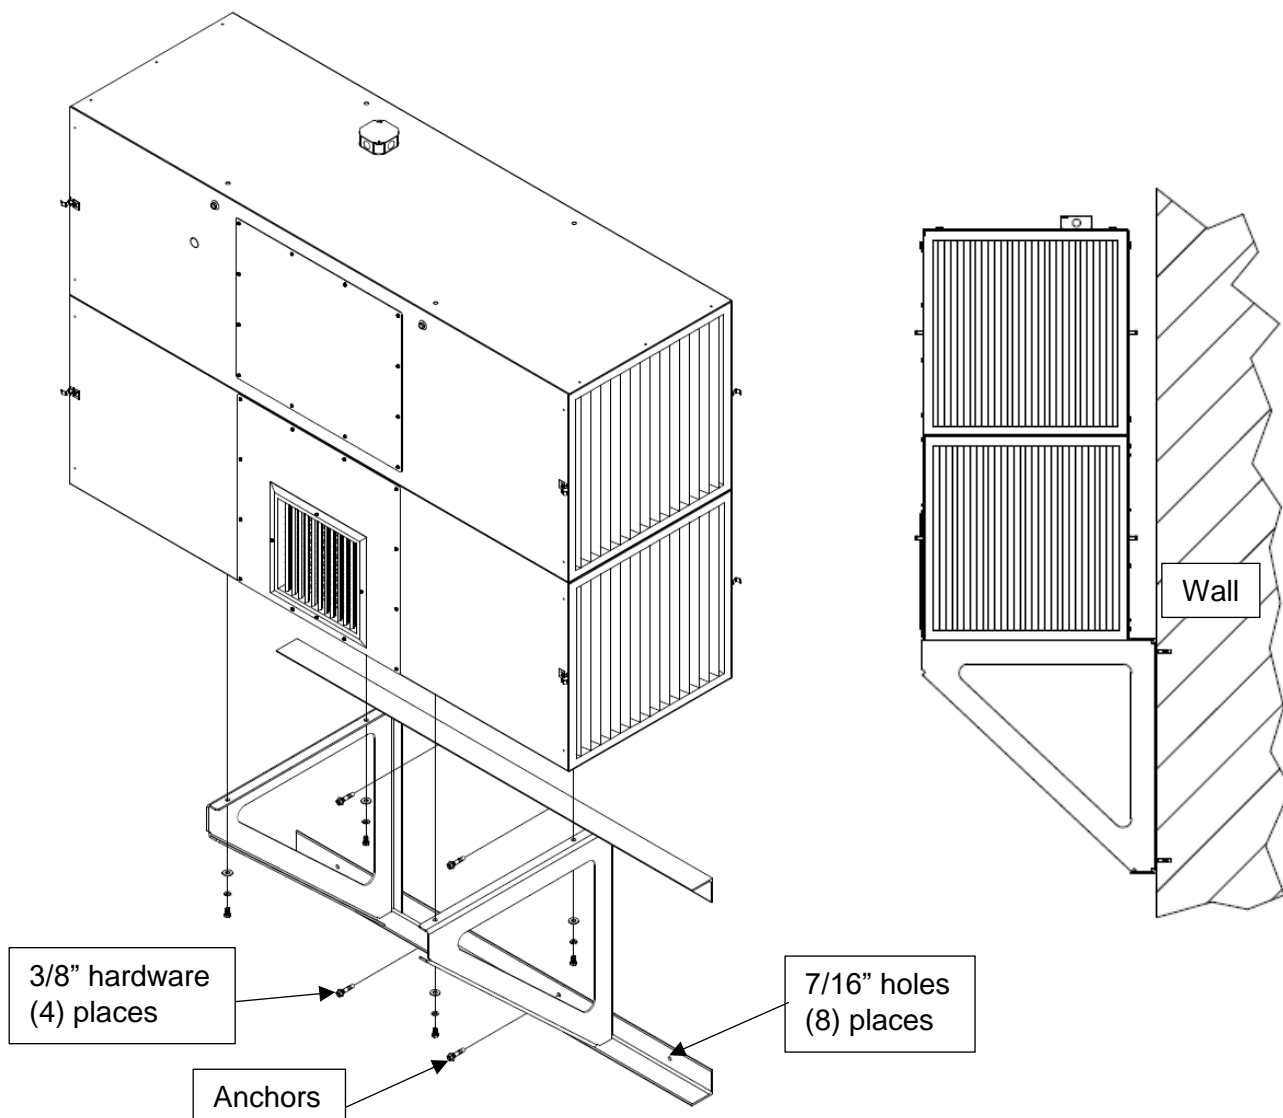

FIG. 5
4. Install cabinet to wall mount by bolting to the bottom of the cabinet with the hardware supplied (See **FIG. 5**).